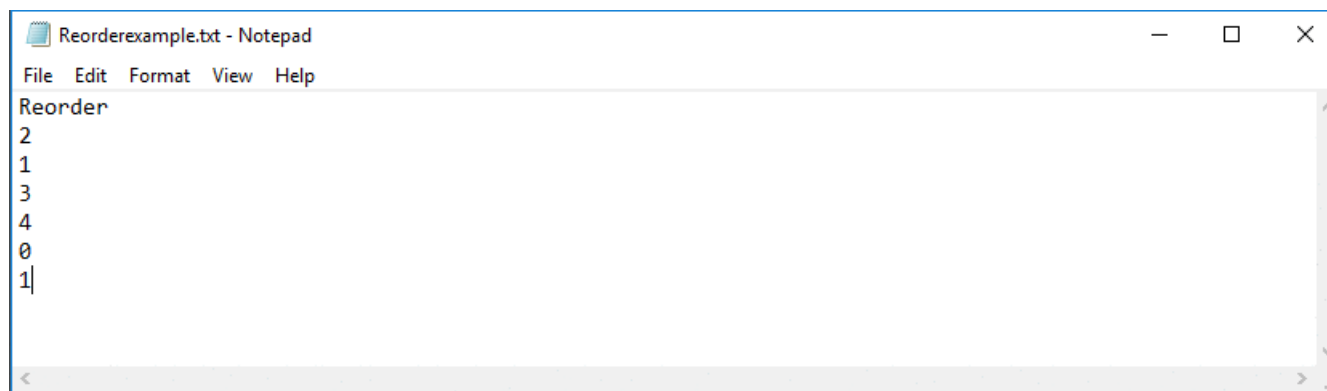

Figure 3-13. Reorder Example
The *LUT Editor* panel is shown in Figure 3-12 where the column labeled “SNO” (i.e. Sequence Number) represents the pattern display slot numbers according to the order set (after clicking *Update LUT*) in the *Pattern Design* tab as shown in Figure 3-11. The user can then reorder those patterns by either manually entering the pattern number of their choice into a row in the “LUT entry” column or loading a text file beginning with the word “Reorder” followed by the desired numerical pattern slots as shown in Figure 3-13.
13. Browse to wherever the text file was saved, and open the file in a text editor program as shown in Figure 3-13.